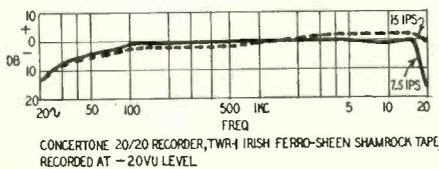

Fig. 1—Response of Concertone 20/20.
**A** RESPONSE from 20 to 20,000 cycles is a pretty big order in a tape recorder regardless of price. When a manufacturer claims it in a job which sells for less than \$500 (less cases), many people are naturally rather skeptical. The answer to the first question most readers will ask is given in the Concertone 20/20 response (Fig. 1). This was taken by feeding a metered audio generator into the recorder at 20 db below the so-called *normal* level (0 VU) and measuring the output of the tape, on subsequent playback, with a vtvm. The -20-db level is the proper point for measuring tape-recorder frequency response. A recorder flat at this level will produce flat recordings even when set to record peaks at zero level because the peak power in music is produced by frequencies between 50 and 1,000 cycles. Measuring a tape recorder at 0 VU will saturate the equalizers and tapes at high frequencies and produce a sloping response beyond about 5,000 cycles.